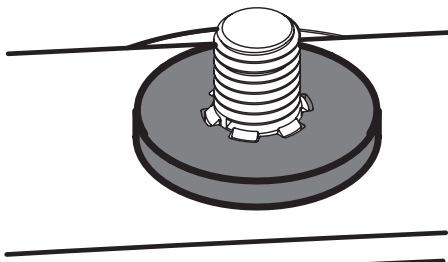

Figure 38
- Carefully place the flat washer on the spindle shaft. Be sure that the splines at the base of the spindle shaft threads line up with the washer splines (Figure 38).